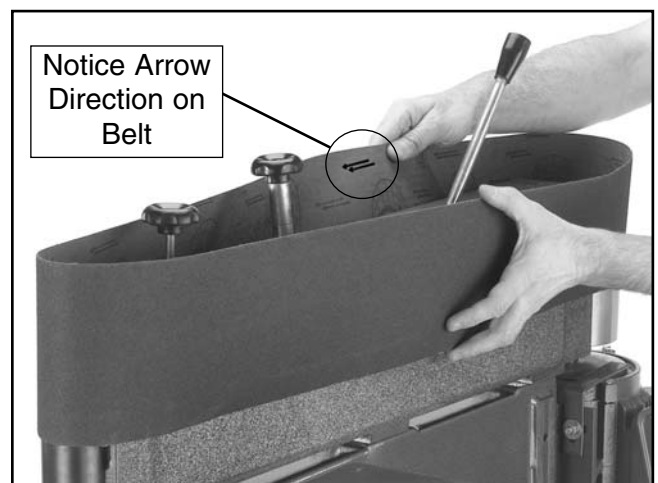

Figure 8. Installing sanding belt.
3. Make sure the arrows on the inside of the belt point in the counter-clockwise direction, and place the sanding belt over both rollers as shown in **Figure 8**.